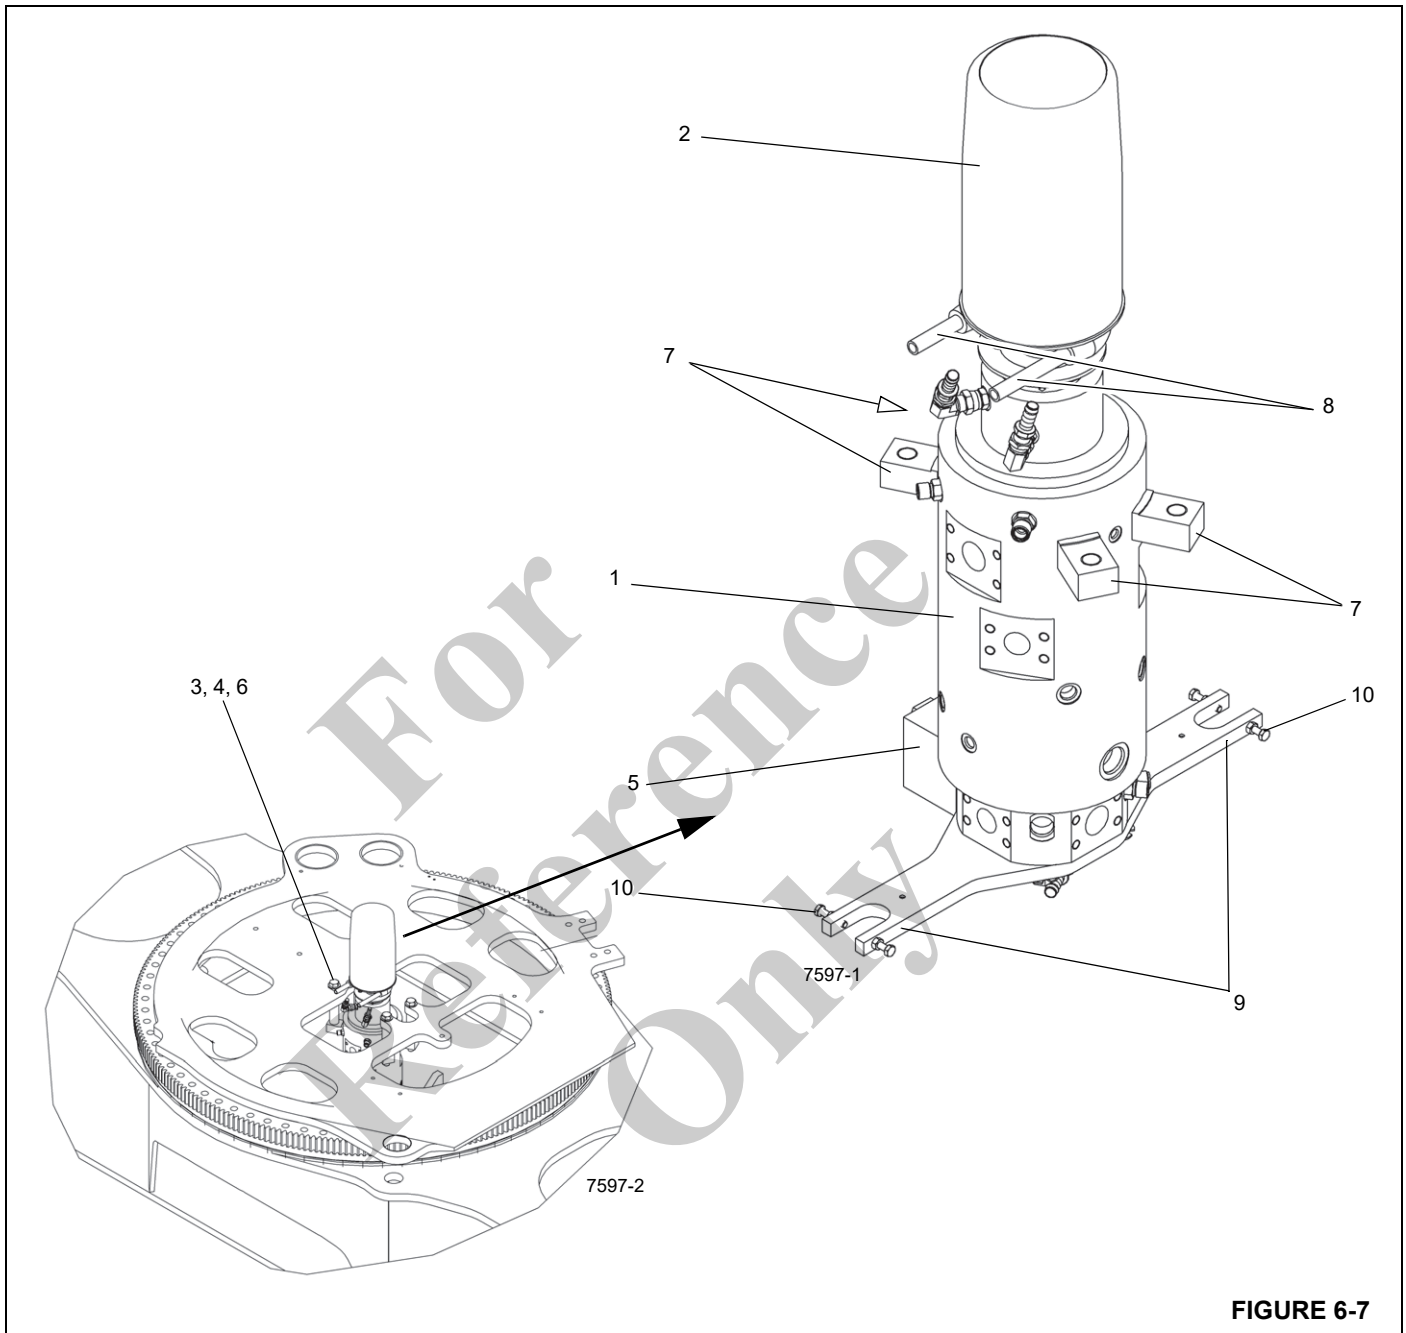

FIGURE 6-7
The swivel assembly consists of a 14 port hydraulic, air conditioning, water swivel and 46 conductor slip ring assembly (2) (Figure 6-7). Solid connections cannot be used to transfer oil, heater hot water and electricity between the carrier and superstructure due to the continuous 360 degree swing. The use of swivels efficiently accomplishes this function.
The barrel portion of the hydraulic swivel is attached to the turntable base plate by four bolts (3), washers (4) and bushings (6) (Figure 6-7), which connect to mounting lugs (7) on the case. The spool portion of the swivel rides upon a thrust ring at the top of the swivel case. The spool portion is held stationary with the carrier by bolts, and bolt retainer plates attached to the swivel retainer plate (9) which engages the carrier frame lugs with bolts and jam nuts (10).